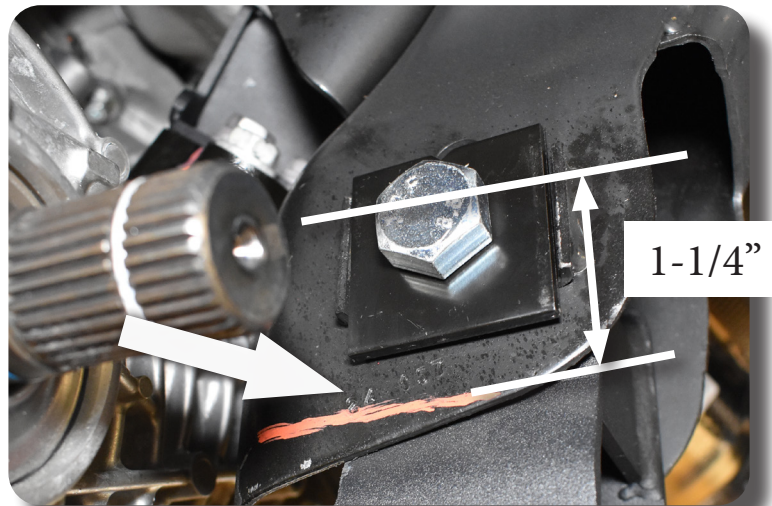

Figure 28
49. On the driver side rear cross member pocket, measure $1\text{-}1/4"$ downwards from center hole and trim horizontally for additional clearance for the new crossmember. **Figure 28** Repeat for passenger side. Clean up cut edges with a flapper sanding disc and coat with paint.